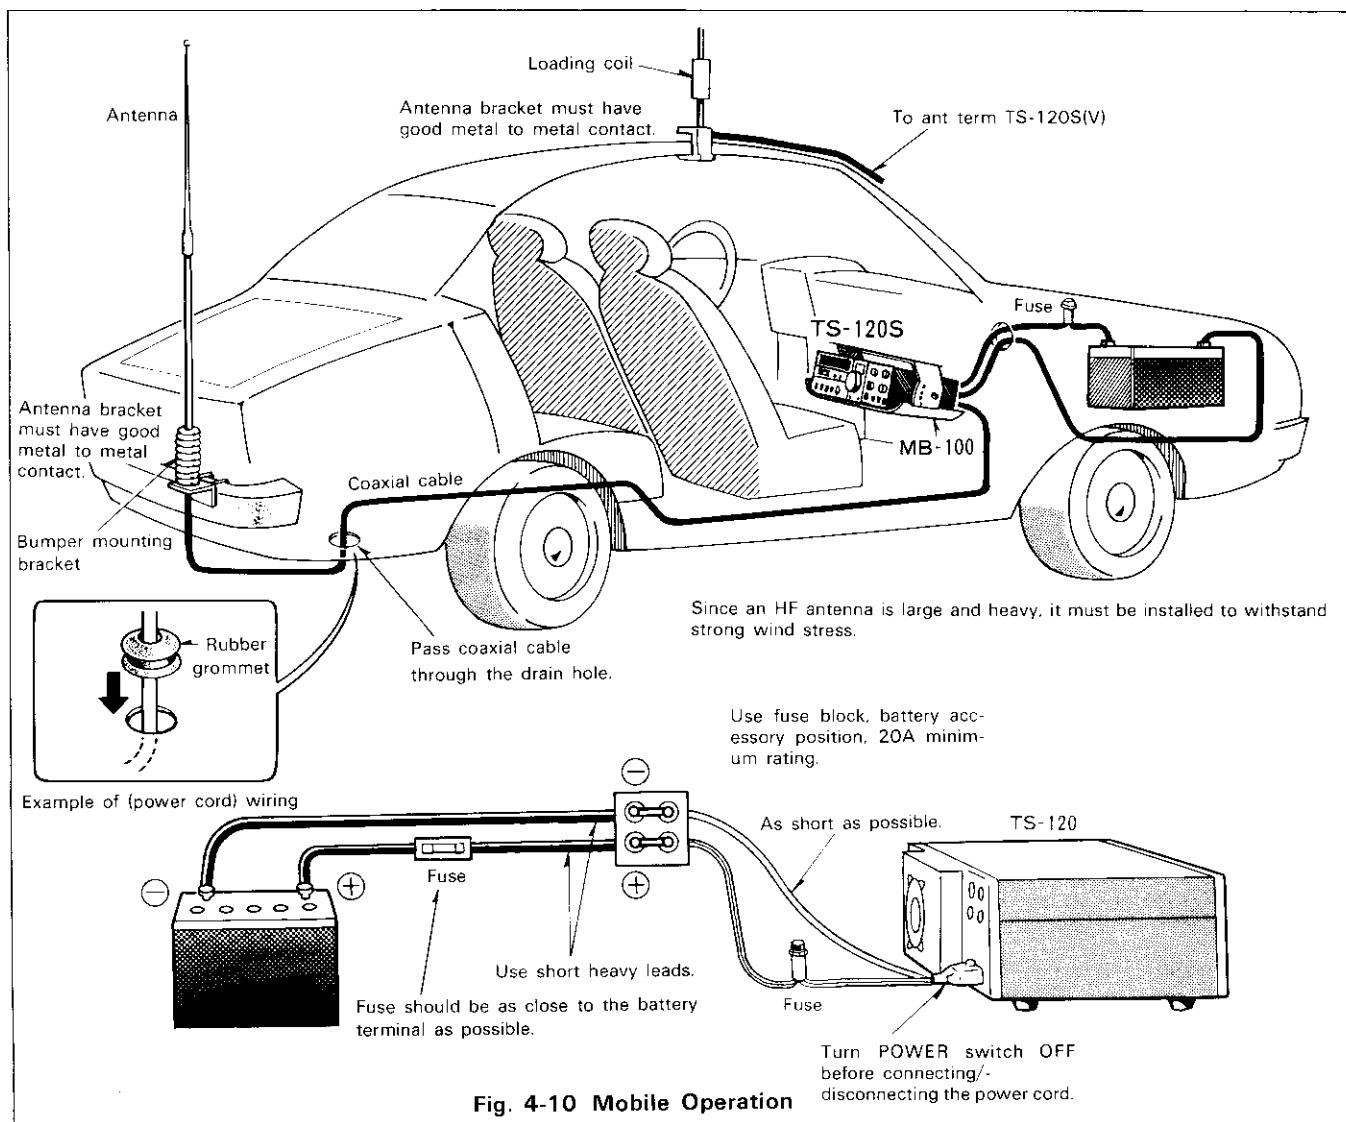

Fig. 4-10 Mobile Operation
4.7 MOBILE OPERATION (Fig. 4-10)
4.7.1. TS-120S(V) INSTALLATION
Secure the TS-120S(V) under the dashboard using an optional MB-100 mounting bracket as shown in Fig. 4-10. As an alternative, use strapping, making sure that the TS-120S(V) will not slip out of place while driving the vehicle.
Use a rugged mount for the mobile antenna because HF antennas are larger (and have more wind load) and heavier than VHF antennas. A bumper mount is recommended for general use. The ground side of the mount must be grounded perfectly to the body of the car since the body itself functions as the ground plane for the mobile antenna. (Refer to Fig. 4-10.)
(2) Coaxial Cable Connection (Fig. 4-10)